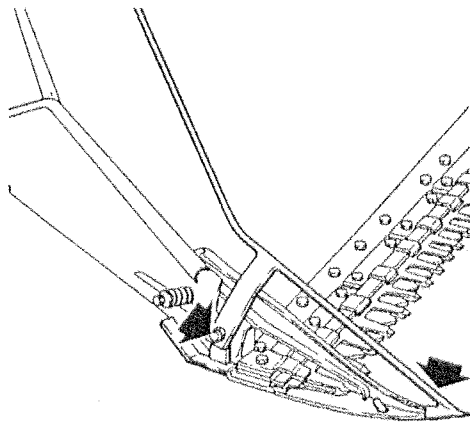

Fig. 27
- The supplementary guide is recommended mostly for forage which tends to obstruct the normal guide. Mount the supplementary mowing guide on the external shoe and tighten with the slide screw (Fig. 27).